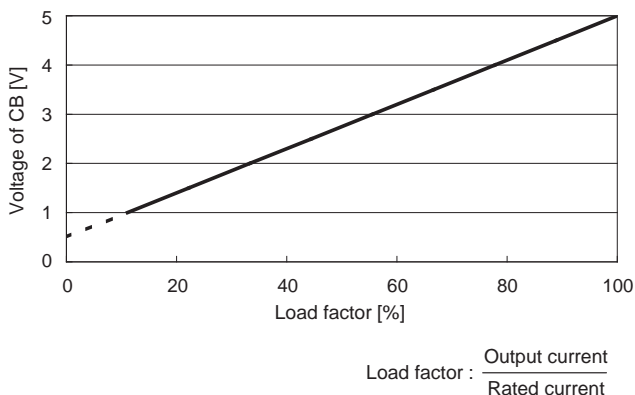

Fig.5.1 Load factor conversion graph
■ Fig.5.1 shows the relationship between the voltage of the terminal CB and the output current. The output current shown in Fig.5.1 should be used only as a guide.